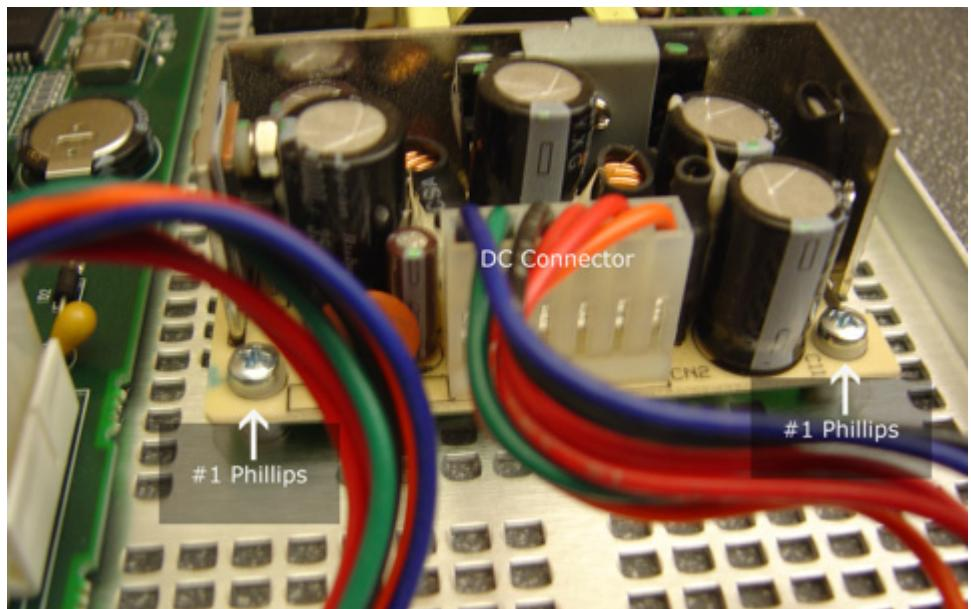
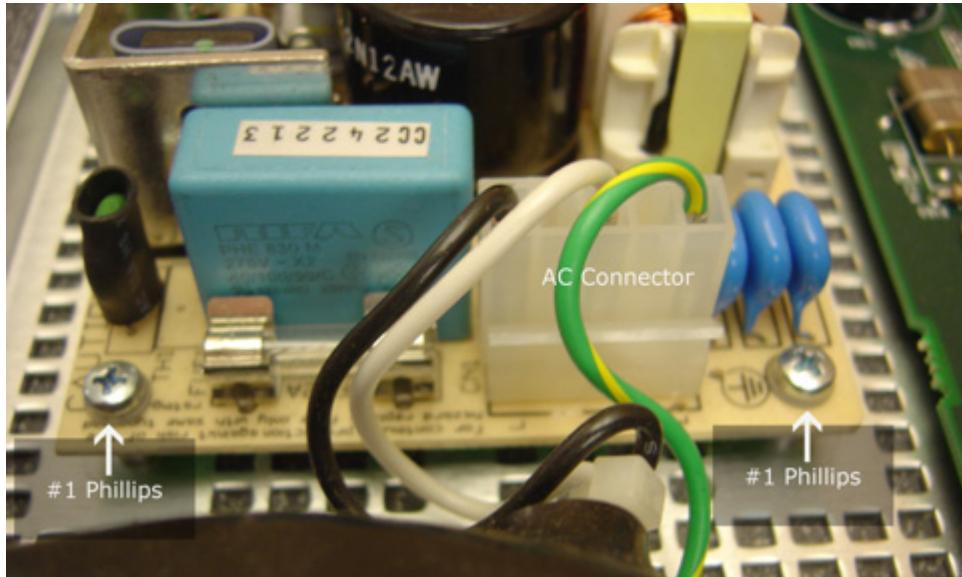

Figure 8 DC Connector and Attaching Screws
Figure 9 AC Connector and Attaching Screws
6. Unplug the DC and AC connectors from the ends of the power supply module. Figure 8 shows the DC connector. Figure 9 shows the AC connector.
7. Remove the four Phillips head screws, shown in Figure 8 and Figure 9, that hold the power supply module in place.